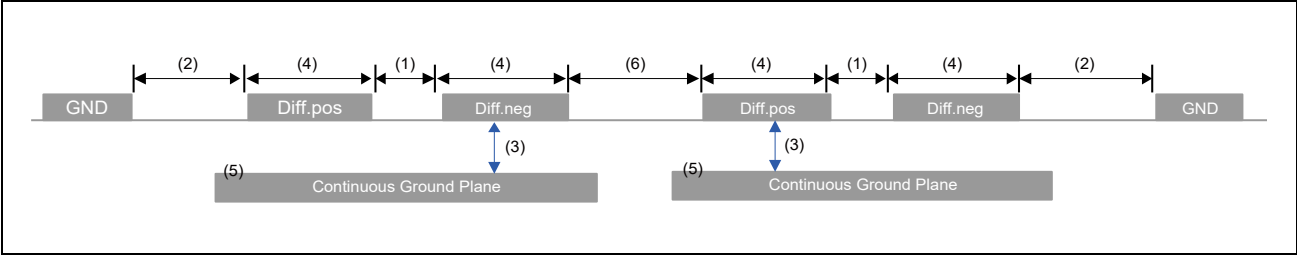

Figure 1.3 Signal Trace Example 2
Between Diff. and next Diff. $\geq 3S$ Note: When there is no GND shield	(6) in Figure 1.3